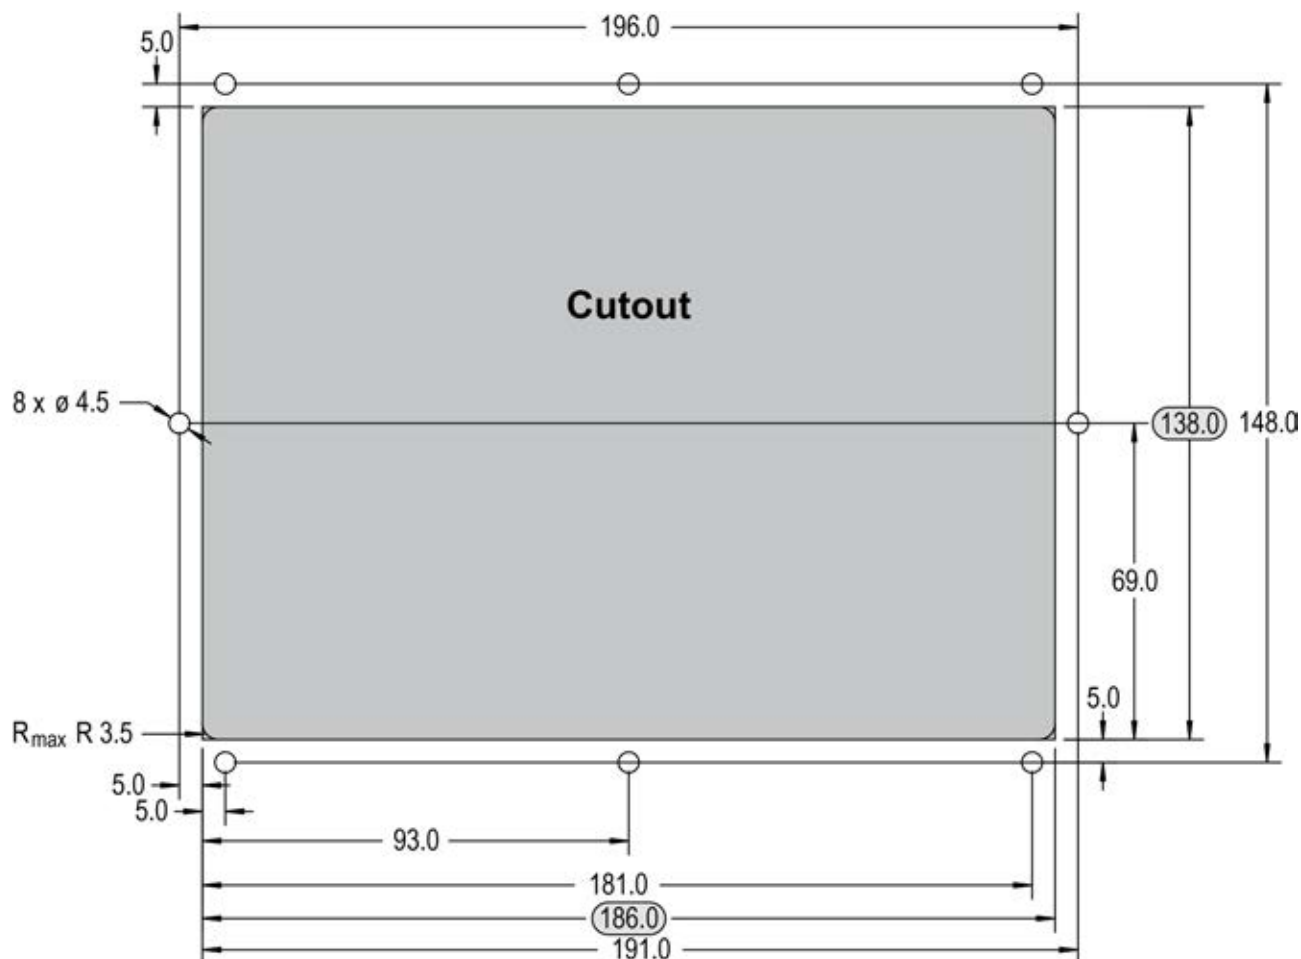

Fig. 16: Plastic housing - drill plan
The housing is equipped with 8 nut inserts (Fig. 16), which must all be tightened properly to achieve the required degree of protection.
- 1.** ➤ Cut out the panel and drill the holes according to the dimensions in Fig. 16 (dimensions shown in mm).